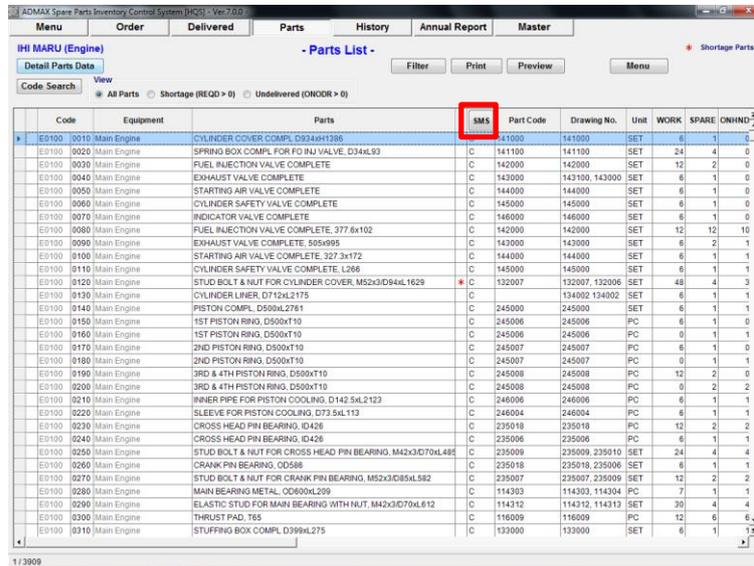

Fig 17.5 Parts List
1. Select [SMS] button on the “Parts List Screen” (Fig.17-5).